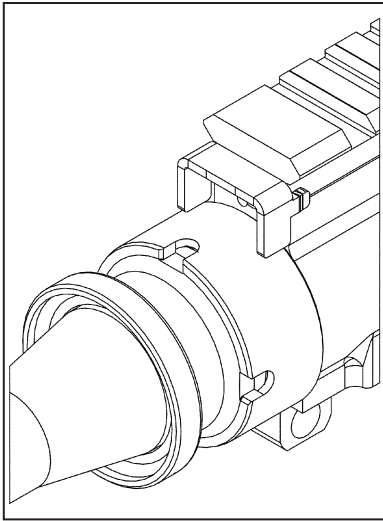

Figure 1
5. Position the KMR barrel nut over the barrel, threads positioned to the rear, and slowly tighten the KMR barrel nut by hand. (See KMR barrel nut pictured in **Figure 1** below.)
8. Position index plate onto upper receiver as shown in **Figure 1**.